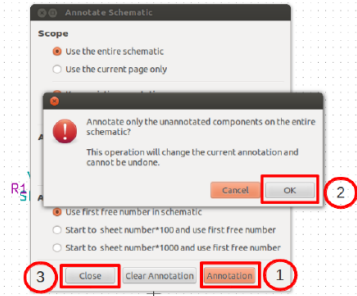

Figure 7.3: Annotation
**Annotating the circuit:** Once the schematic diagram is completed, annotate it so that the 'question marks' associated with the components are converted to meaningful numbers automatically. For that choose annotate button from the top toolbar and in the subsequent dialogue boxes appearing click ok and finally close. See Figure 7.3.